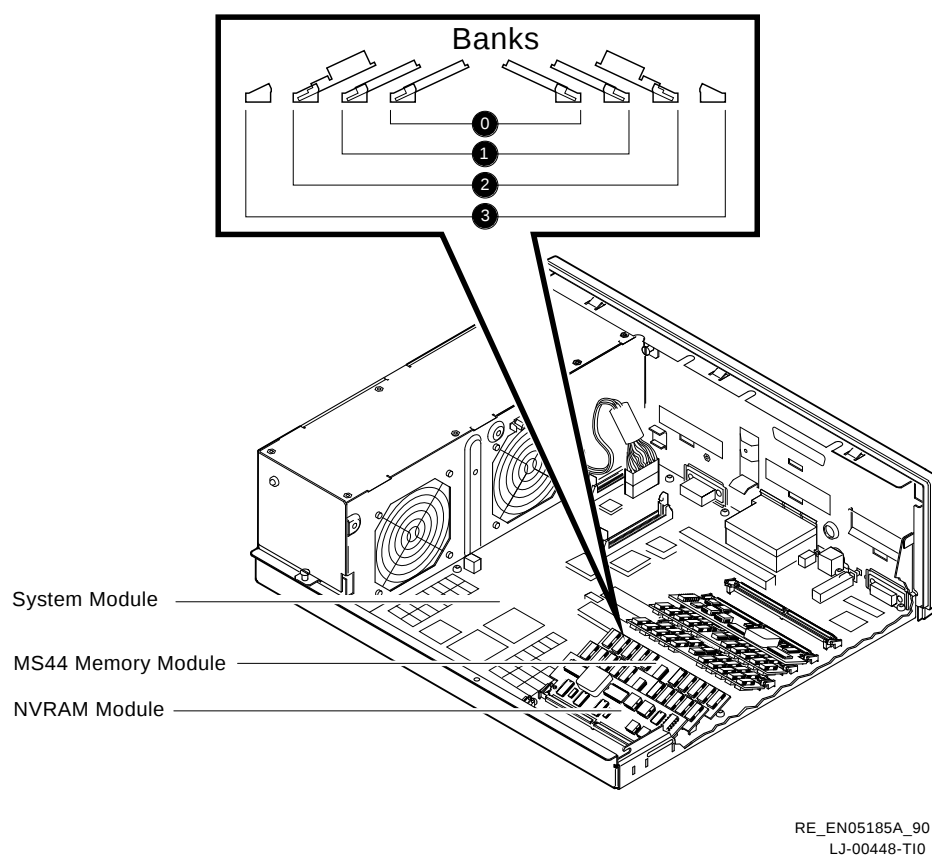

Figure 2-7 Sample Configuration
4. Identify the connectors of the memory bank in which you want to install the NVRAM modules. For bank locations, and memory module and NVRAM module configurations, see Table 2-1, Table 2-2, and Figure 2-7.